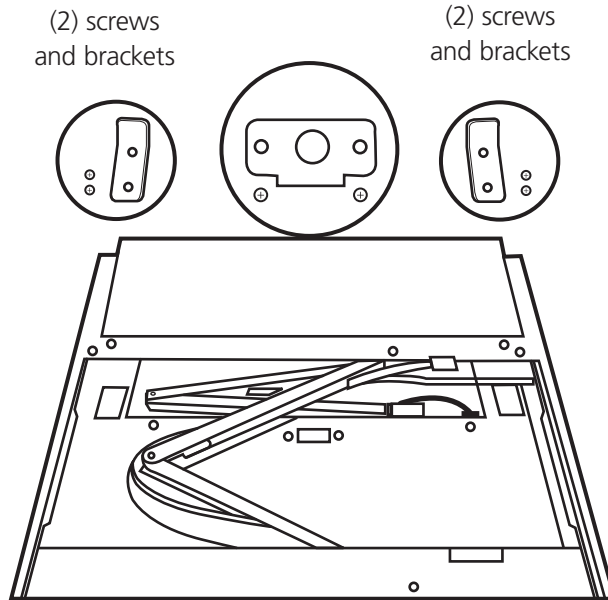

Figure 4-9. Screws on the keyboard/touch pad and LCD monitor assembly.
1. To pull out the keyboard touch pad independently, you must first remove the two pairs of screws fastened on a bracket at the keyboard's upper cover on the ends of the left and right sides. See Figure 4-9.